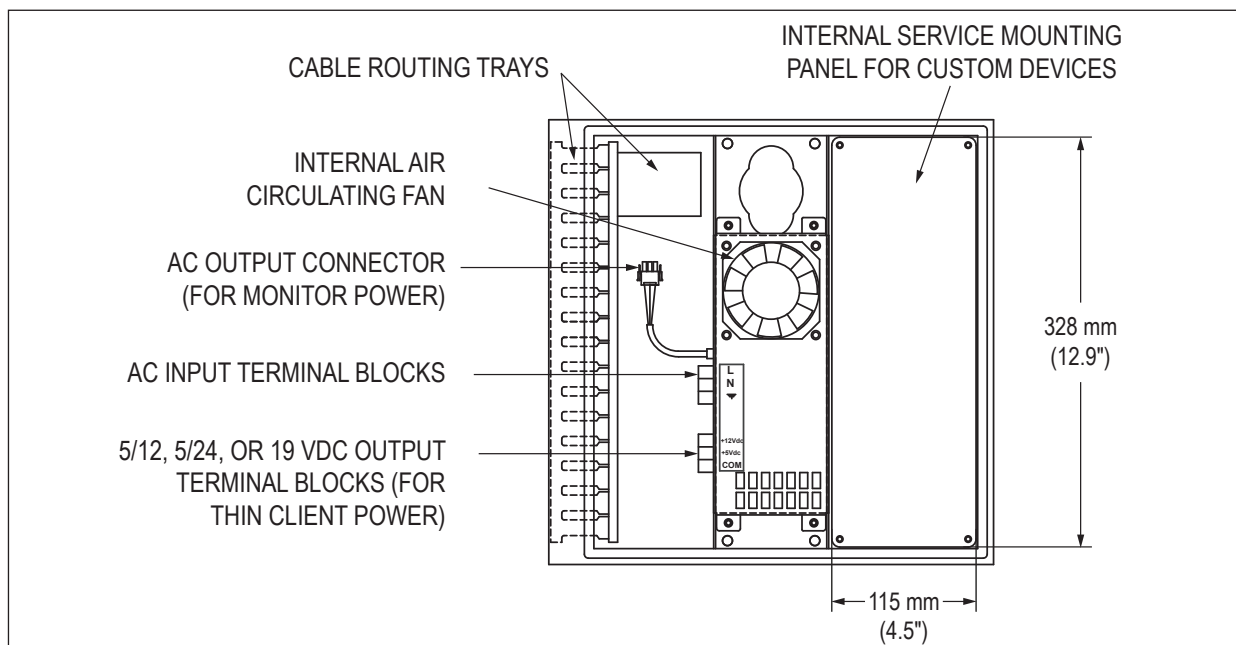

FIGURE 1 – INSIDE VIEW OF ENCLOSURE
1. Refer to Figure 1. Install the assembly inside the enclosure by removing and reinstalling the four 8 mm (5/16") hex nuts that come installed in the enclosure.
2. Refer to Figure 1. Remove caps on Cable Routing Trays.
3. Refer to Figure 1. With power disconnected, hook up incoming power from mains supply to the AC input terminal blocks ("L" is black; "N" is white). Securely tighten terminal block screws.
5. Refer to Figure 1. Hook up AC power to the monitor using an HIS CCAC- \_\_ \_\_ cable (not included). Disconnect and discard the end of the cable with the NA plug. Plug the C-13 connector end of the cable into the power input port on the rear of the monitor. Route the cable in through the hole in the pedestal to the Thin Client / PC enclosure. Connect the Molex connector end of the cable to the AC output connector. Route cables through Cable Routing Trays.
- a. For Thin Clients or PCs with a power requirement other than what is provided, or it is undesirable to cut the DC power cable, use the device manufacturer's brick power supply. Install the brick power supply to the internal service panel (shown in Figure 1) and connect the AC power side to the AC power input terminal block using HIS part number MK-1OUTLET-xx. After completing the installation, continue to step 10.
9. Refer to Figure 1. Hook the DC cable wires to the terminal block in the correct polarity [i.e. ground to COM (-)]. Connect the other wire to the appropriate 5, 12, 19, or 24 VDC terminal.